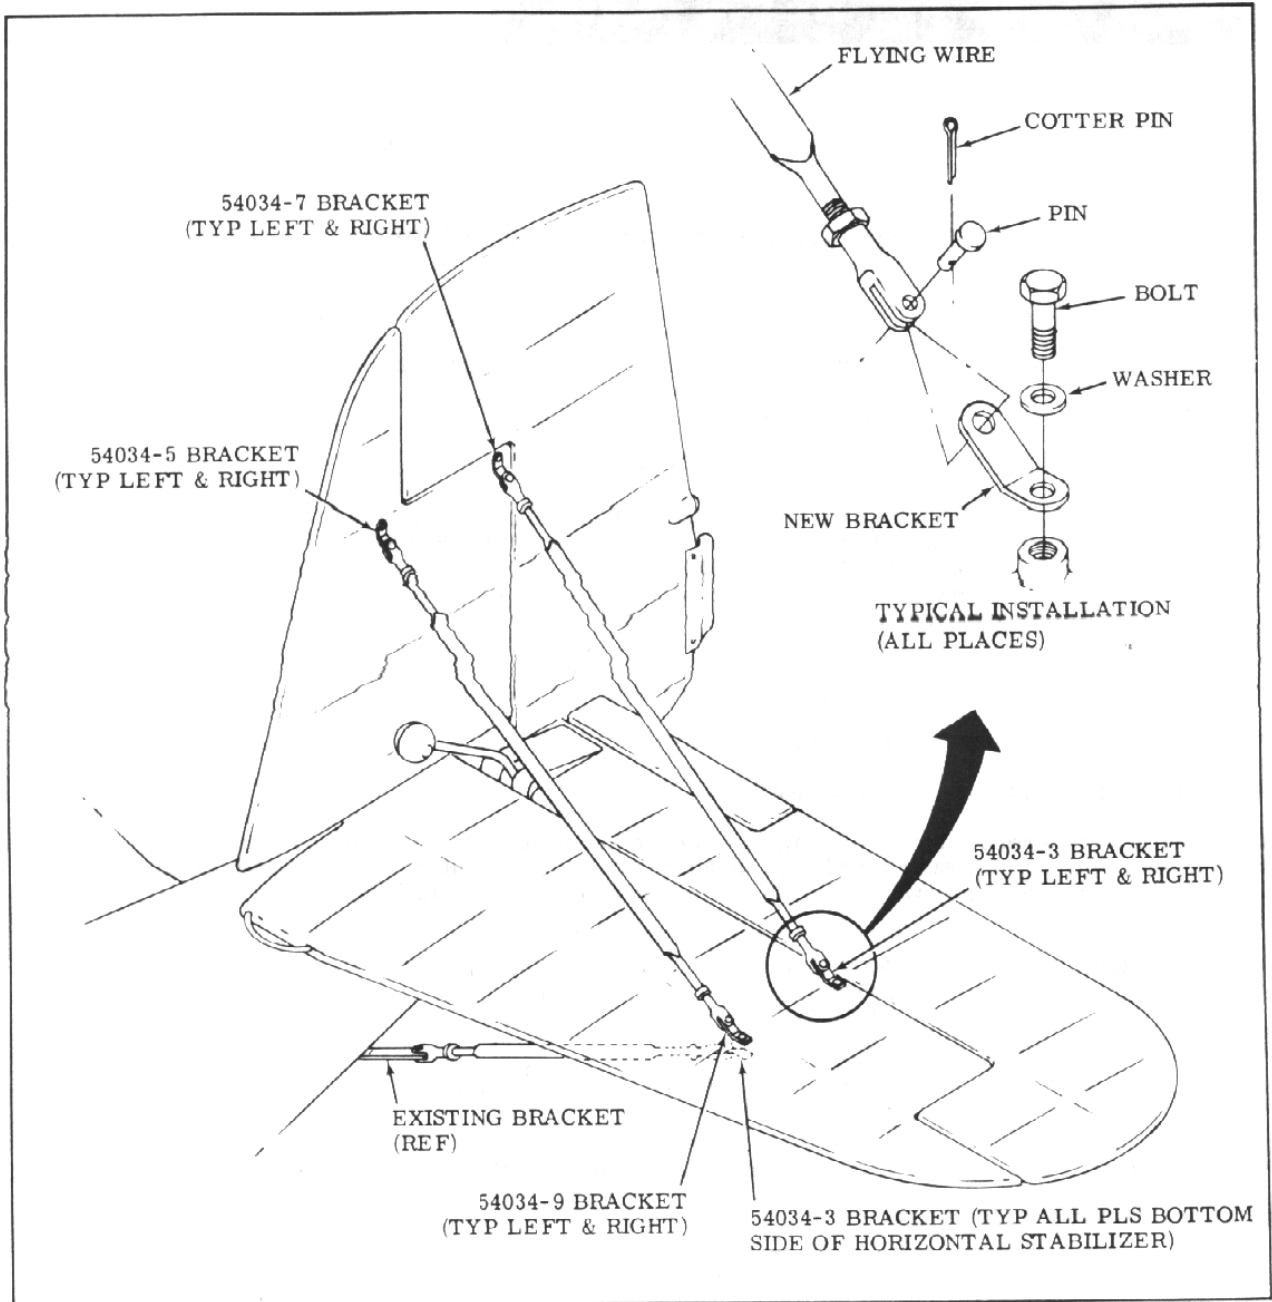

Figure 1.
- 3 Install 54034-5 bracket (2 places) and 54034-7 bracket (2 places) on vertical stabilizer using existing hardware removed in step 2. (see Figure 1).
- 4 Install 54034-3 bracket (6 places) and 54034-9 bracket (2 places) on horizontal stabilizer using existing hardware removed in step 2. (see Figure 1).